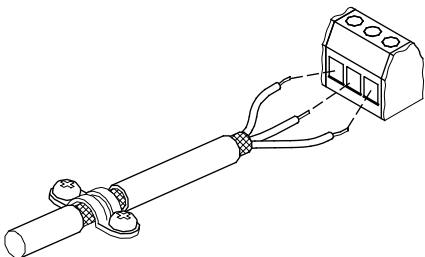

Fig. 5 Stripped cable with shield and wire connection
- The shields of the cables must be connected to frame at both ends with good frame connection. They must be as close as possible to the terminals, fig. 5.